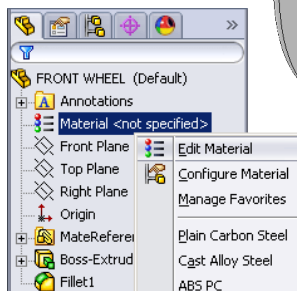

Fig. 10
Step 1. **Right click Material**  in the Feature Manager and click **Edit Material** , **Fig. 10**.